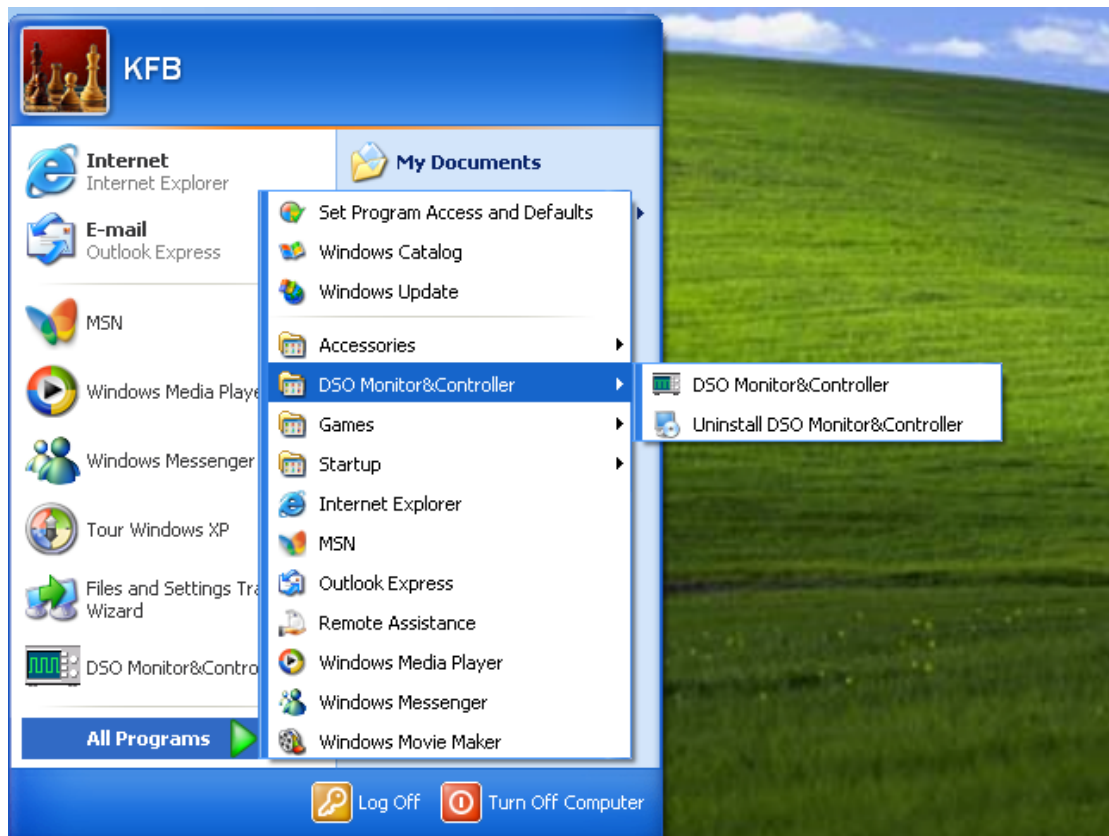

Figure 1-19
- (2) Alternatively, you can start the software as follows : START→Programmes→DSO real-time monitor→DSO real-time monitor, as shown in Figure 1-19.